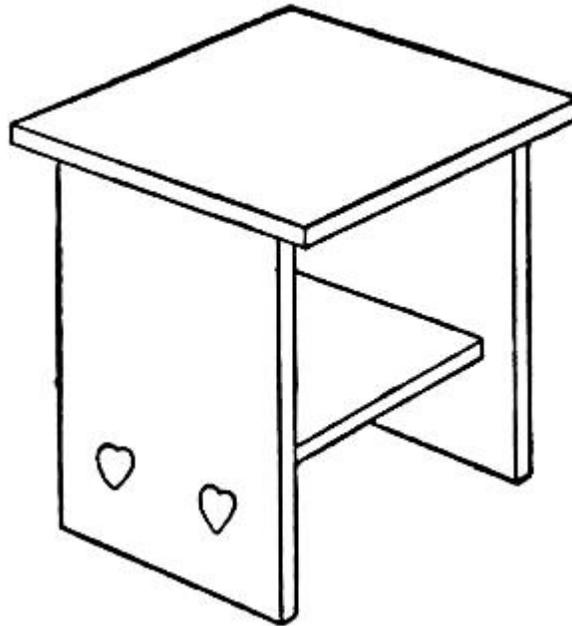

FIG. 130.—A Table.
**Tables** for the living-room, dining-room, bedroom, ball-room, and nursery of a doll-house may be patterned after the designs of Figs. 130 and 131. These should be two and one-half inches high to be of proper proportion for the chairs.
The pieces necessary to make Fig. 130 are a top two inches square, two sides an inch and one-half wide by two and one-half inches high, and a shelf an inch and one-quarter square. Fasten the pieces together as in the illustration, placing the shelf between the side-pieces an inch from the bottom.